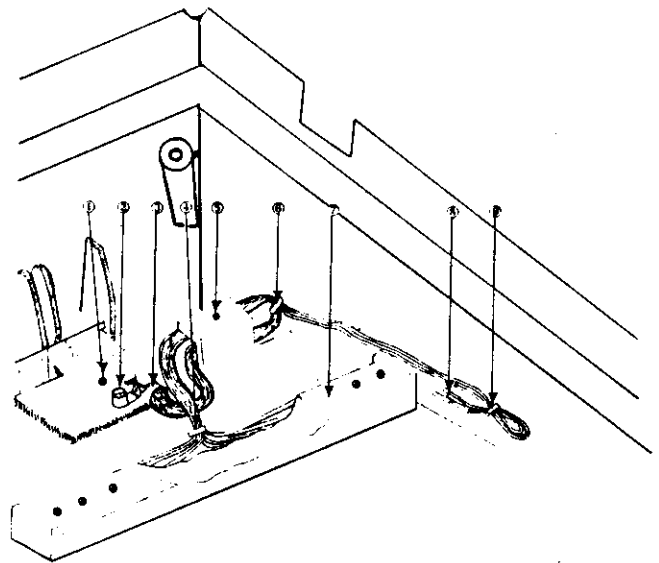

FIGURE 6 – JACKSET CABLE SECURED TO EKT AND EXCESS WIRES SECURED
3.2.1 Install a tie-wrap(1) loosely around the twelve wires connected to the terminal strip. Slide the tie-wrap to within one inch of the terminal strip, just in front of the metal retaining bracket. Remove any slack from the individual wires that exists between the tie-wrap and their connections on the terminal strip. Tighten the tie-wrap. See Figure 6.
3.2.3 Unscrew the metal bracket holding the EHIU PCB in place. Place the loop formed by the tied wires over the anchoring post and secure the EHIU metal bracket over the looped wires. See Figure 6.
3.4 Using the nylon tie-wrap with securing eyelet, tie the jackset cable and secure the tie-wrap to the modular jack's metal retaining bracket with the 3/8 inch machine screw provided with the EHIU. **See Figure 6.** Proceed to Paragraph 5.
4. AUTOMATIC DIALER (AD) CONNECTIONS
3.4 Using the nylon tie-wrap with securing eyelet, tie the jackset cable and secure the tie-wrap to the modular jack's metal retaining bracket with the 3/8 inch machine screw provided with the EHIU. See Figure 6. Proceed to Paragraph 5.